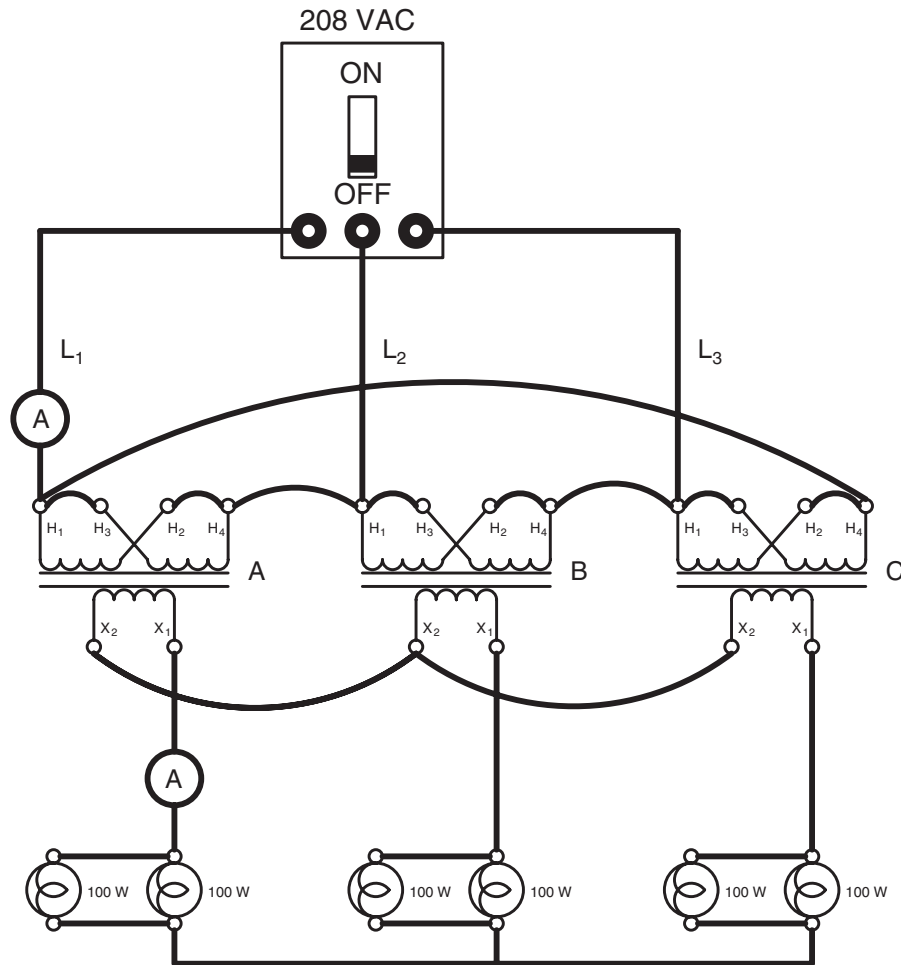

Figure 24-18 Adding load to the transformers.
- Add an additional 100 watt lamp in parallel with each of the three existing loads, as shown in Figure 24-18.